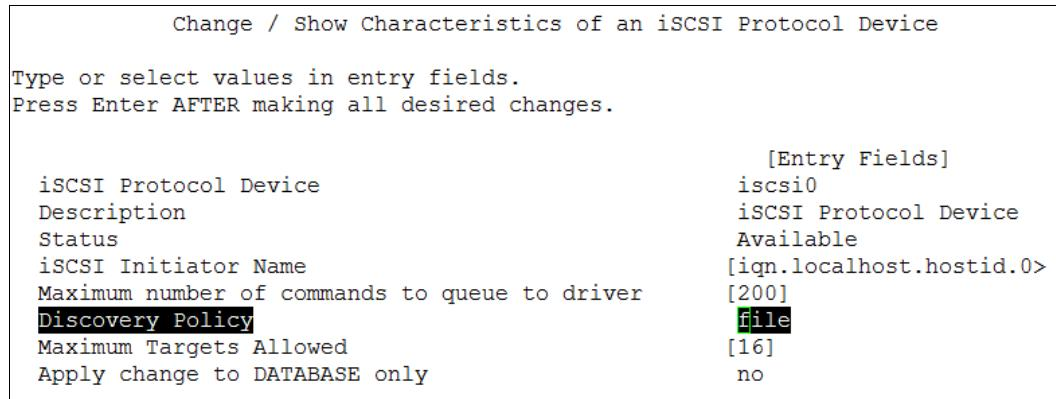

Figure 7-4 Change / Show Characteristics of an iSCSI Protocol Device menu
4. Select file in the Discovery Policy field, as shown in Figure 7-4.